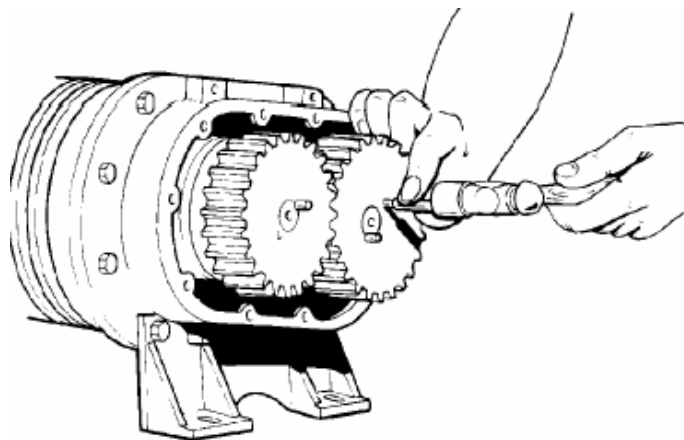

FIGURE 7-7
- E. Insert a mild steel or soft metal rod thru the small hole in the gear (9). Tap lightly until the feeler gauge is snug. Adjust both impellers using the same procedure. Rotate the impellers checking for clearance through a complete revolution (see FIGURE 7-7).